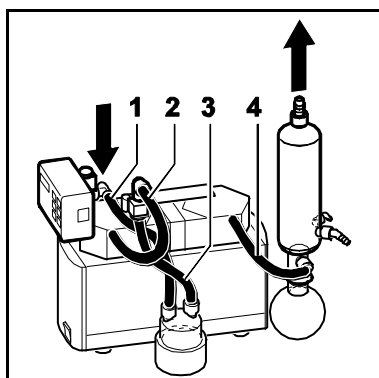

Fig. 17: Tubing system SC
4	Tubes (see fig. 17) <ul style="list-style-type: none"> <li>▪ Resistant to the medium employed</li> <li>▪ Inside diameter 10 mm</li> <li>▪ Length: (1,4) approx. 220 mm, (2) approx. 300 mm, (3) approx. 150 mm</li> </ul>
5. Lay hoses for system (see fig. 17).